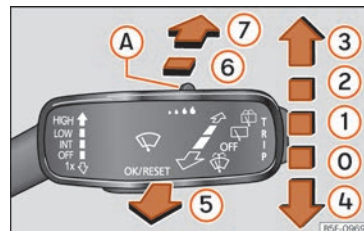

Fig. 101 Operating the windscreen wiper and rear wiper.
INT	Wiper intervals. Use control >>> Fig. 101 (A) to set the interval (vehicles without rain sensor), or the sensitivity of the rain sensor.
LOW	Slow sweep adjustable by using control >>> Fig. 101 (A) .
HIGH	Fast sweep adjustable by using control >>> Fig. 101 (A) .